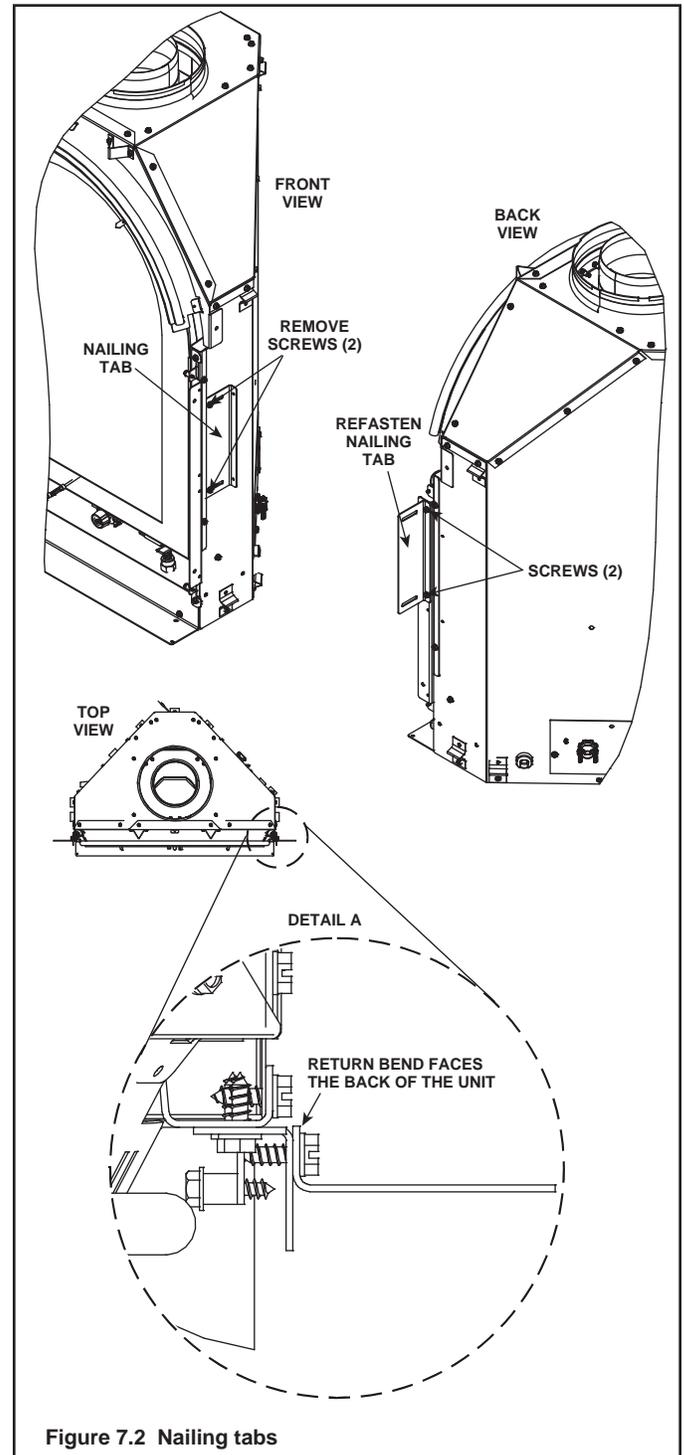

Figure 7.2 Nailing tabs
- Remove two side screws from each nailing tab (see Figure 7.2) and refasten nailing tabs to the appliance. Note: Return bend on nailing tab faces back of unit.